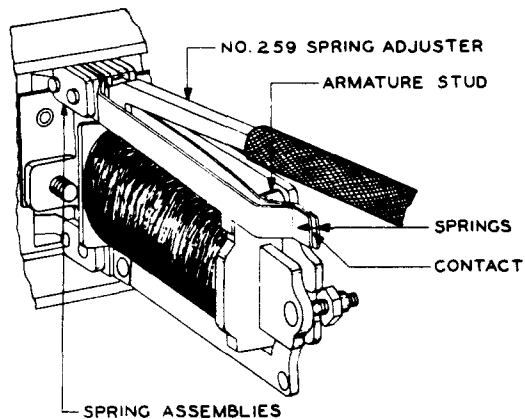

Fig. 19 - Method of Adjusting for Spring Tension
- (1) Use the No. 259 spring adjuster to adjust the springs for these requirements. Place the adjuster on the front end of the spring, but back of the contact and armature stud, and then slide it back to a point about 1/4-inch from where the spring leaves the spring assembly as shown in Fig. 19. Adjust the spring at this point as required, exercising care not to disturb adjacent springs.
- (2) Normally straight springs that have been adjusted should have no sharp bends due to adjustment. A gradual bow is permissible.
- (3) In tensioning springs exercise care not to deform the armature hinge plate.